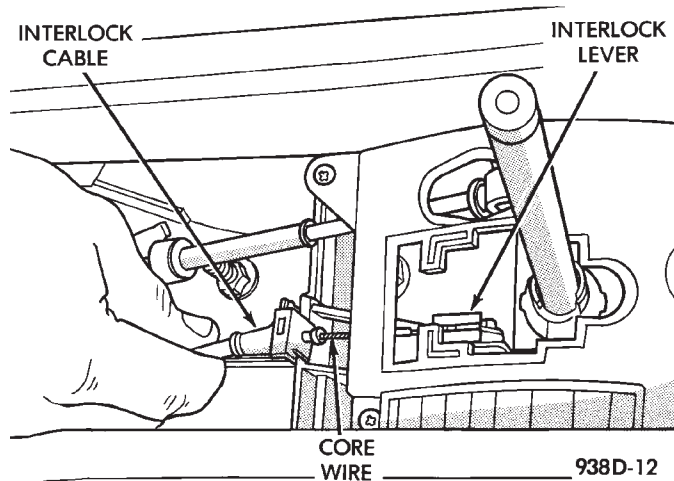
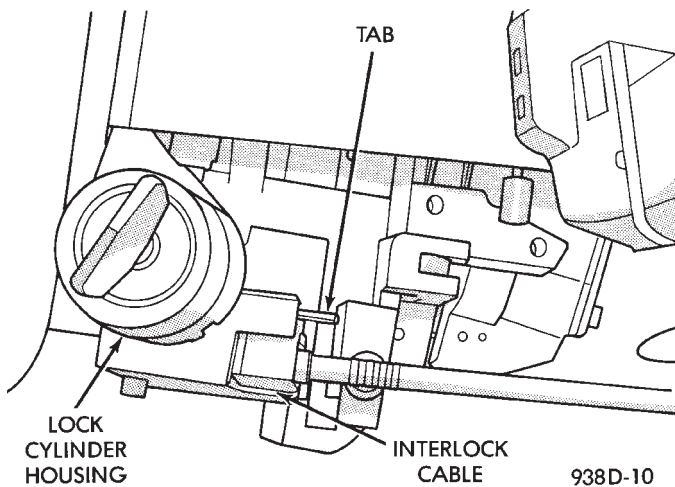
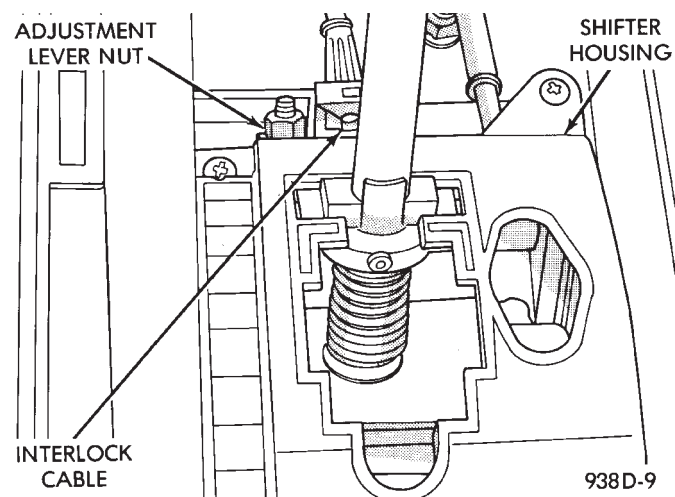

Fig. 13 Interlock Cable at Floor Shifter
Fig. 14 Interlock Cable at Ignition Switch
Fig. 15 Interlock Cable at Floor Shifter
(5) Remove upper and lower covers from the steering column.
(6) Loosen the nut on the interlock adjustment lever.
(7) Move ignition key to the Run position.
(8) Remove the interlock cable from the shifter housing (Fig. 13). Slide the cable out of the groove in the interlock lever.
(9) Depress the lock tab on the interlock cable and pull the cable out of the lock cylinder housing (Fig. 14).
(10) Remove interlock cable.
(3) Slide the steering column end of the interlock cable into the lock cylinder housing until it snaps into place (Fig. 14).
(4) Turn the ignition key to the Off/Lock position
(5) Put the shifter in the PARK position.
(6) Slide the interlock cable core wire into the groove on the adjustment lever. Ensure the cable end seats in the groove (Fig. 13).
(7) Slip the cable into the housing until it snaps into place.
(8) Ensure the shift lever remains in PARK. Remove the ignition key from the lock cylinder (switch in OFF position).
When the adjustment nut on the interlock lever is loosened, the cable indexes itself to the correct position (Fig. 15).
(1) Remove the shifter handle.
(2) Remove the console bezel.
(3) Loosen the adjustment nut on the interlock lever (Fig. 15).
(4) Move ignition key to the RUN position.
(5) Remove the interlock cable from the shifter housing (Fig. 13). Slide the cable out of the groove in the interlock lever.
(6) Inspect the interlock cable:
(7) Put the shifter in the PARK position.
(8) Slide the interlock cable core wire into the groove on the adjustment lever. Ensure the cable end seats in the groove.
(9) Slip the cable into the housing until it snaps in place.
(10) Ensure the shift lever remains in PARK. Remove the ignition key from the lock cylinder (switch in OFF position).
(11) Loosen the adjustment nut. Allow the cable to adjust itself to the correct position. Tighten the adjustment nut.
(12) Check the interlock adjustment:
- With the ignition key in the OFF (lock) position, the shifter should be locked in the PARK position. If not, re-adjust the interlock and tighten the adjustment nut (Fig. 15).
- **Without starting the engine**, place the ignition switch in the run position. Move the shifter to the reverse position. You should not be able to remove the ignition key from the lock cylinder. If the key can be removed at this point, re-adjust the interlock and tighten the adjustment nut (Fig. 15).
- Place the shifter in the PARK position. Turn the ignition key to the OFF (lock) position. You should be able to remove the ignition key from the lock cylinder. If not, re-adjust the interlock and tighten the adjustment nut (Fig. 15).
(13) Install the bezel on the shifter console.
(14) Install shifter handle.